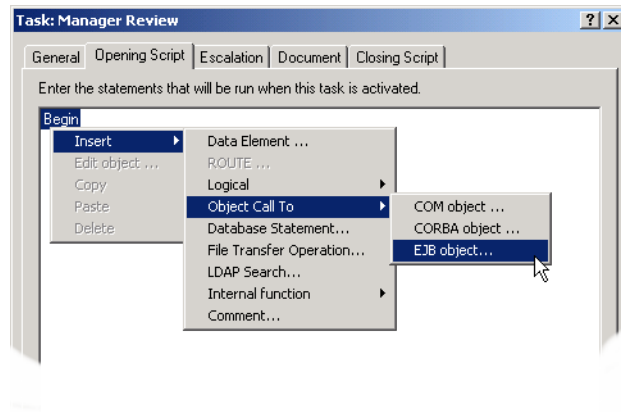

Figure 37-1. Closing Script tab with EJB being inserted into the **CRbuilder process** logic.
- ① Double-click on a task to open it, then click the **Closing** or **Opening** script.
- ② Right-click on the **Begin** statement, select **Insert**, then **Object Call To**, then **EJB** (see Figure 37-1, below).